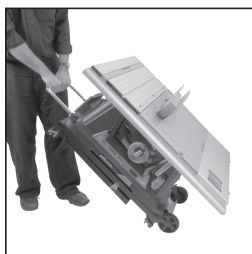

FIG. 10
4. Lift the handle and allow the machines integral transportation wheels to touch the ground. (**Fig.10**)